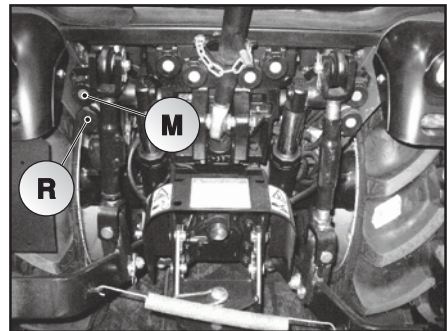

Fig. 5.82
The hydraulic coupling (M) feeds the continuous delivery, while the coupling (R) is a free return (Fig. 5.82).